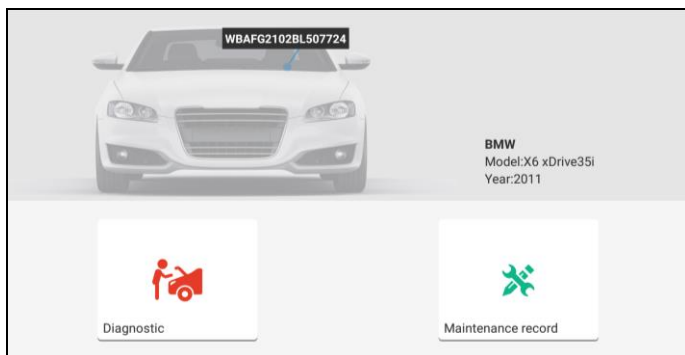

Fig. 5-2
- A. If the VIN can be found from the remote server database, a screen similar to Fig. 5-2 displays:
- If the VIN scanned is incorrect, tap the result field to modify it and then tap "OK". If the VIN exists on the remote server, the system will enter the vehicle information screen. See Fig. 5-2.